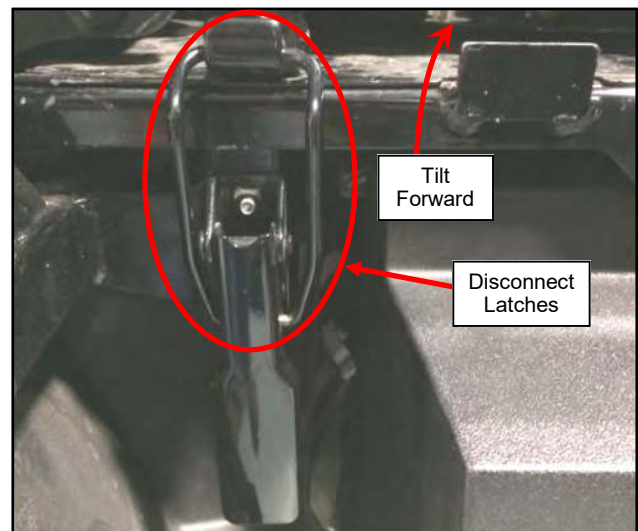

Fig. 2.1 (Tilt Seat Forward, Pro-FXT)
- 2.1** Disconnect the (2) latches on either side of the vehicle in front of the bed and tilt the back seat bottom forwards per fig 2.1.